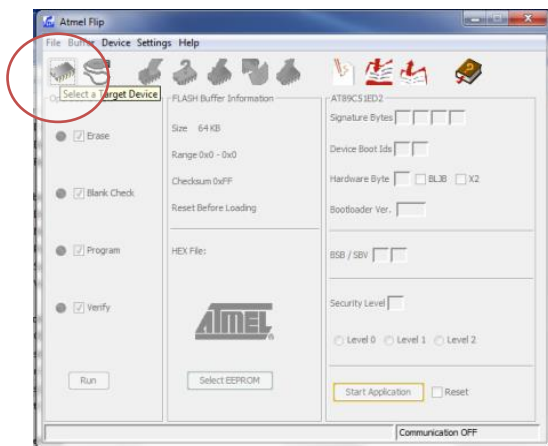
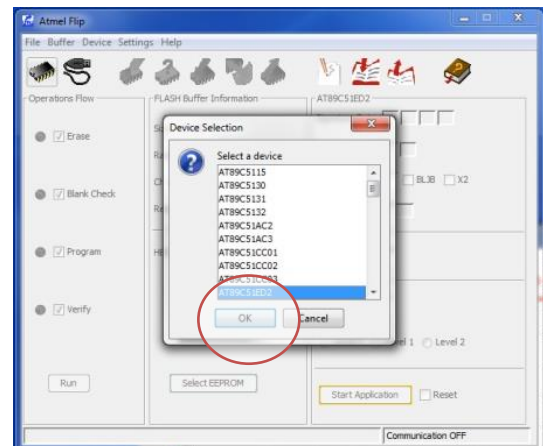

Figure 7 - Select a Target Device
Figure 8 - Select Device 'AT89C51ED2'
- 2) Open Atmel Flip on the AVM2-PC. Select a target device, Figure 7. Select AT89C51ED2 from the drop down menu and confirm by pressing 'OK', seen on Figure 8.